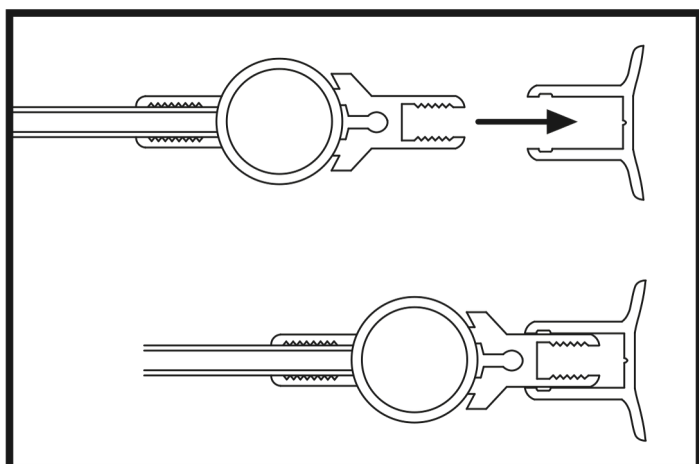

Figure 4
11. Carefully rest the bottom edge of the glass on the support blocks. Slide the mono-hinged glass into the wall-mounted hinge profile, with the movement directed toward the wall. (Figure 4)